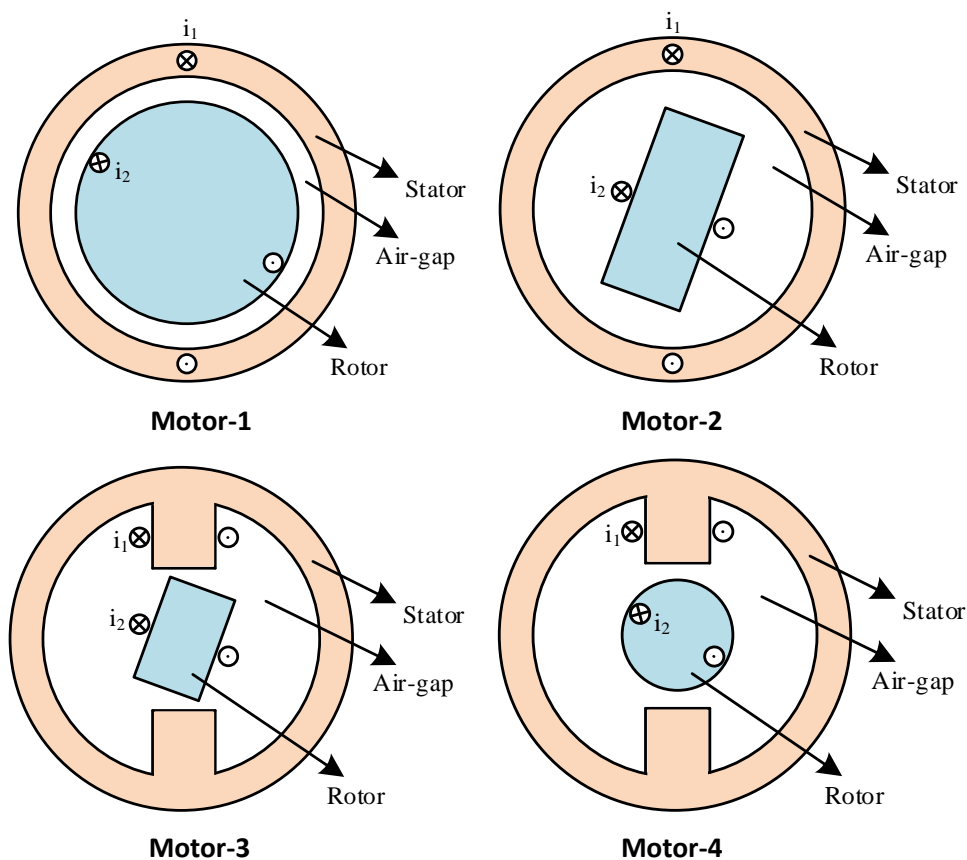

Figure 1: Different types of electric motors
Q.1. Consider the different types of electric motors shown in Figure 1. General torque expression of a machine is also given as follows: